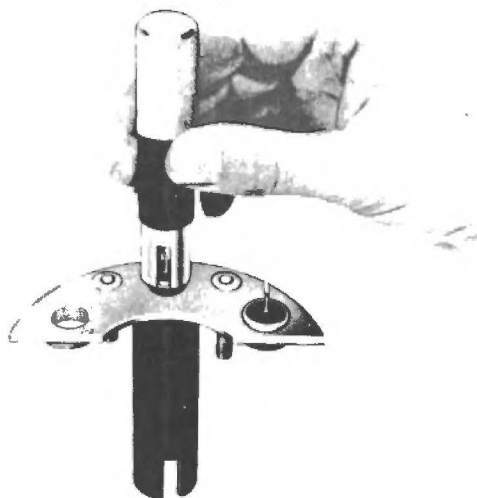

Fig. 15 - Installing Rectifiers in Heat Sinks.
(1) Make sure that the snap ring and retainer cup are in place on the rotor shaft at the drive end.
(2) Assemble drive end head complete with bearing to the rotor then assemble spacer, fan, key, pulley, lockwasher and shaft nut and tighten nut to 30 lbs./ft. torque.
(3) Install diodes using Tool CA-3772 (Fig. 15). A press must be used and not a hammer. While resoldering the connections to the diodes, hold the wire lead with pliers as this will help to dissipate heat and thus protect the diode from damage due to over-heating.